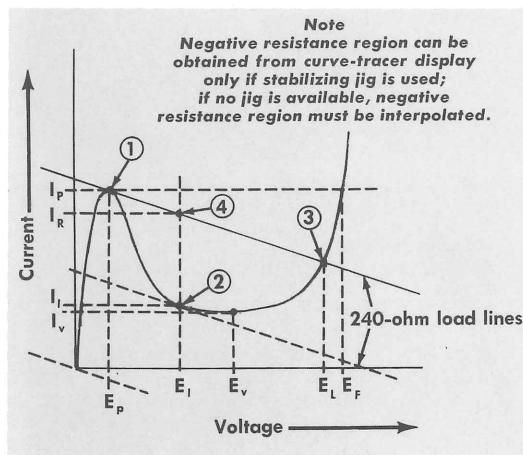
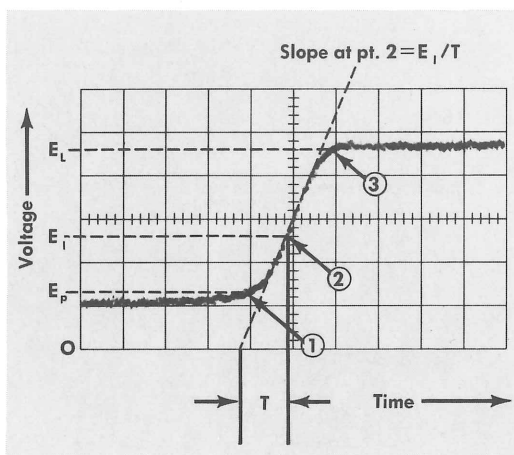
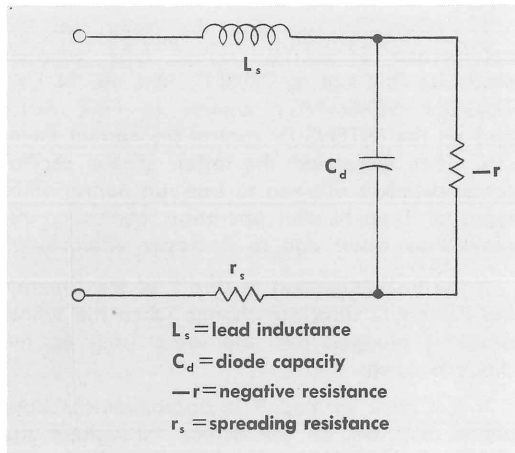

Fig. 3. Typical tunnel diode characteristic curve.
Fig. 4. Typical tunnel diode switching signal.
Fig. 5. Tunnel diode equivalent circuit.
Referring to Fig. 3, note the 240-ohm load line through the origin. This is the initial condition of the system. As the positive gate is applied, the load line moves slowly upward, causing the diode operating point to move up the characteristic curve toward point 1. As the load line continues to rise, the diode can no longer satisfy both the static load line and the characteristic curve. The diode capacity
Fig. 4 shows a typical tunnel diode switching waveform as it is displayed with the Tunnel Diode Risetime Tester. Points 1, 2, and 3 of this waveform correspond to points 1, 2, and 3 of Fig. 3. Thus the "switching time" of the diode can be determined by measuring the horizontal distance between points 1 and 3 in Fig. 4, and multiplying this distance by the setting of the NANOSEC/CM switch on the Type N Unit. (On the switching waveform, points 1 and 3 are at the points where the trace "breaks" from a steady slow rise to the switching portion of the trace.) A frequently used standard "risetime" definition would be the time between the 10% and 90% points of the vertical distance between points 1 and 3.
In determining C_d from the waveforms in Figs. 3 and 4, a simple analysis results if one neglects the effects of the spreading resistance, r_s , and the lead inductance, L_s , of Fig. 5. The socket leads may be regarded as a short length of near-240-ohm transmission line termi-
Based upon the foregoing assumptions, the maximum current flows into the diode capacity at the inflection point 2 (Fig. 4) since the rate of change of voltage is directly proportional to the current flowing into a capacity. From the static characteristics (Fig. 3), one can graphically determine the maximum current by constructing a load line parallel to R_L , but touching the curve in the negative resistance region at one point only. The peak current I_p less the current I_R , at point 4, is the current delivered to the load resistance. The difference between point 4 (I_R) and point 2 (I_i) is the maximum current delivered to the diode capacity. From $Q = CE$, one arrives at
where T/E_i is the inverse rate of change of voltage at the point of inflection (point 2 in Fig. 4).
9. Adjust the DELAY control as necessary to display a switching signal similar to that in Fig. 4 on the screen; the higher the peak-current rating of the diode, the more DELAY necessary to place the switching signal on the screen. The setting of the TRIGGER SENSITIVITY control may also be critical when operating at the extremes of the range of the tester (diodes with peak currents near 1 ma or 20 ma). If you are not able to display a switching signal, refer to the paragraphs following this procedure.
10. Set the NANOSEC/CM switch to allow convenient measurement of E_p , E_L , time from 10% to 90% of $E_L - E_p$, and E_i/T (see Fig. 4). These values can then be used to obtain the switching time, the diode capacity, and the peak-current-to-capacity ratio (see Diode Action). If desired, E_p , E_L , and E_i can be determined from the static characteristic curve (Fig. 3) and then translated to the switching waveform in Fig. 4. The sensitivity of the display is 200 millivolts per centimeter with the bottom graticule line representing zero volts.